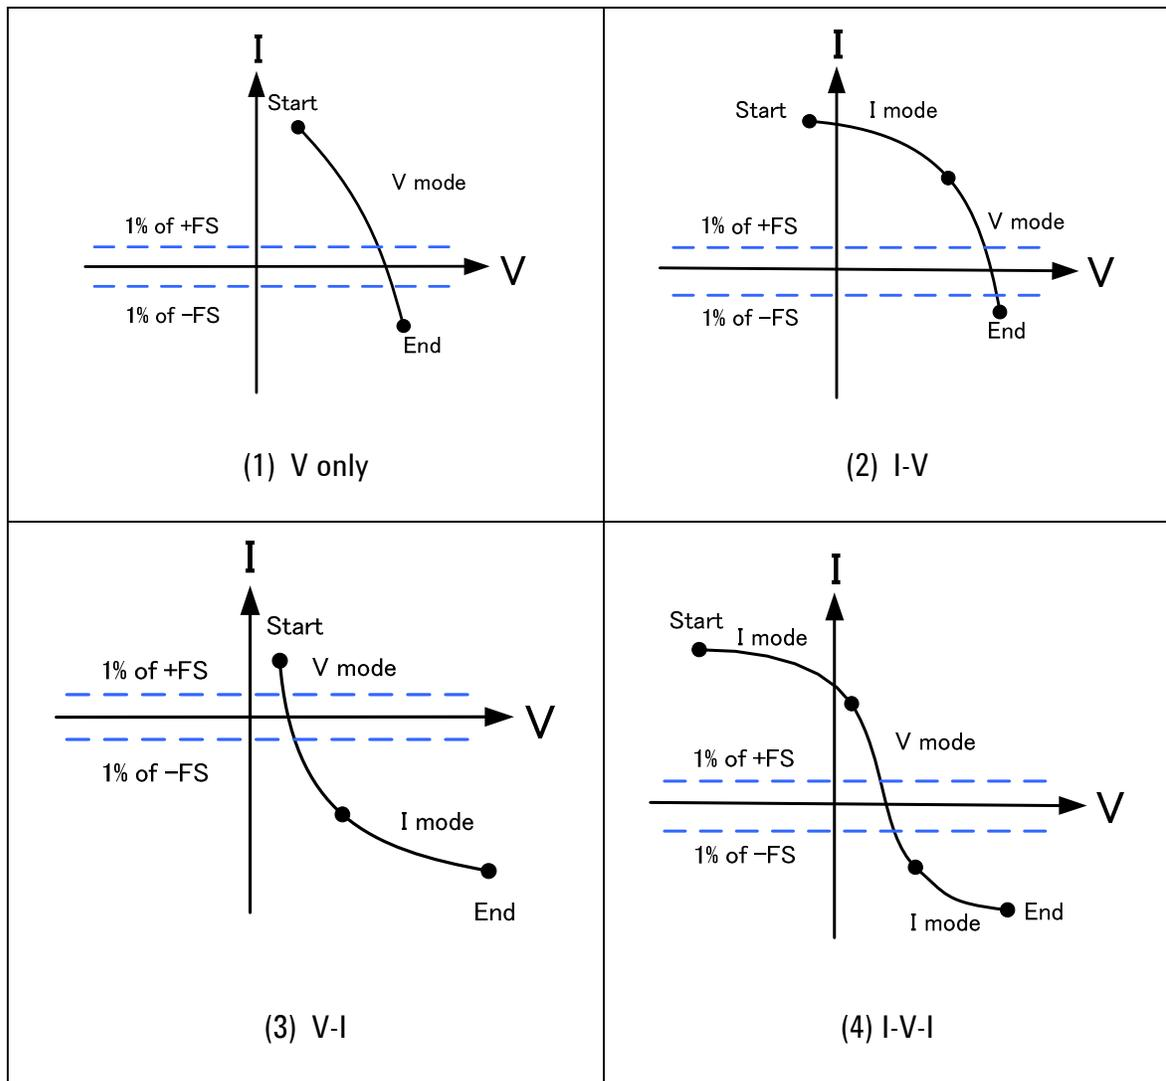
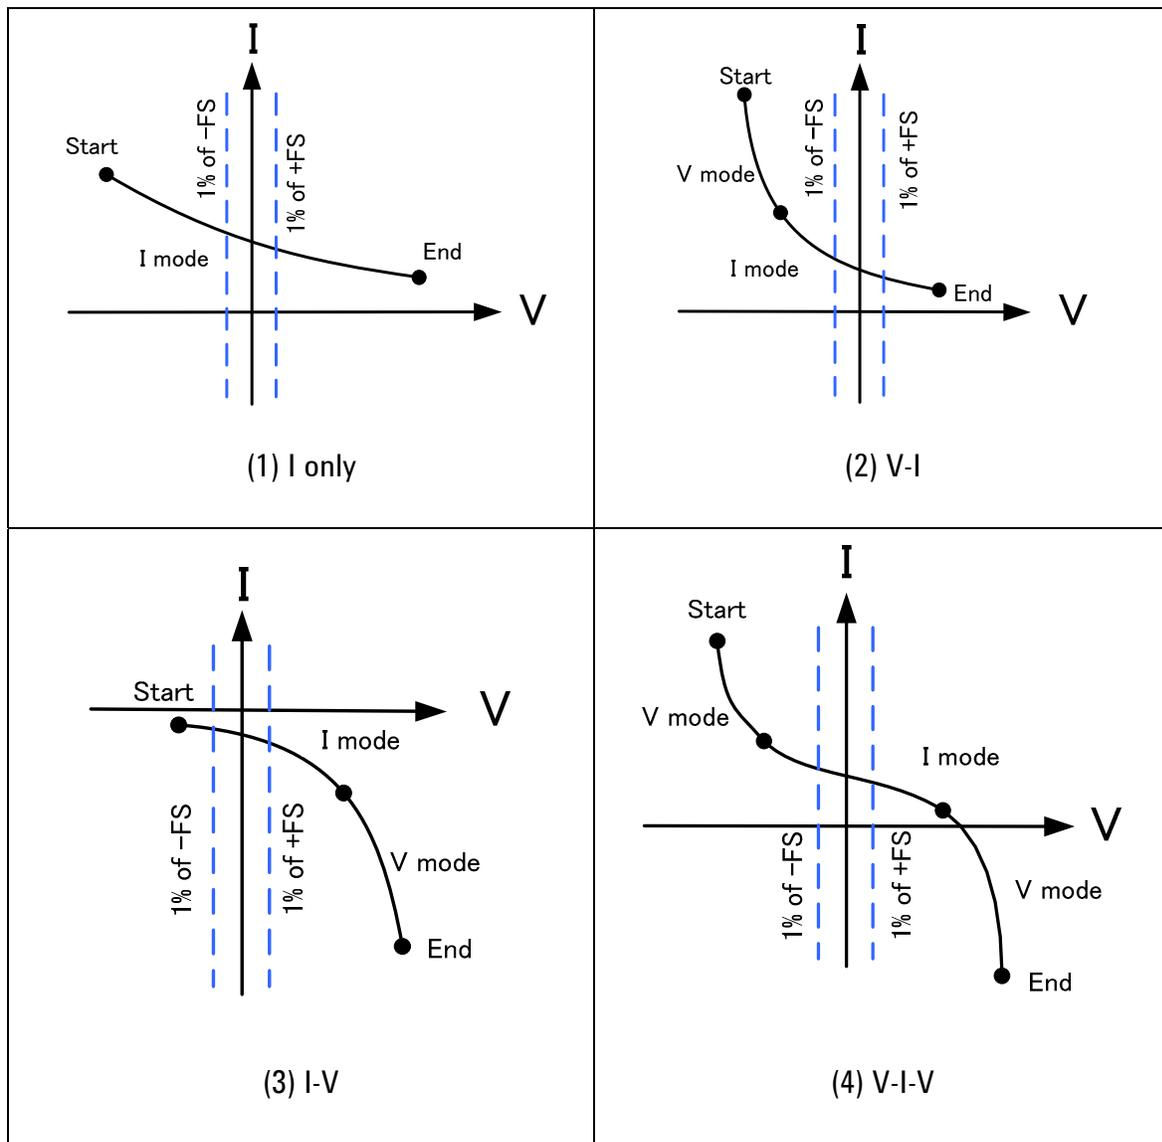

Figure 11 V/I mode when the primary source mode is voltage
Figure 12 V/I-mode when the primary source mode is current
Combination of the V/I mode must be one of the following conditions (Figure 11).
Combination of the V/I mode must be one of the following conditions (Figure 12).
(a) is a bad example for the combination shown in Figure 11 (3). The positive current is not allowed for the I mode, also the negative resistance (R_s or R_{sh}) is not allowed.
(b) is a bad example for the combination shown in Figure 12 (3). The V mode cannot be used within $\pm 1\%$ of full scale of the voltage range (or $\pm 10\%$ for the 200 mV range).
See the document *Using Constant Mode*, publication number B2960-90041. The available R_s/R_{sh} values for the constant mode are also effective for the VI emulation mode. However, the negative resistance/conductance is not allowed for the VI emulation mode. So, the I-V characteristics always shows the curve from upper left to lower right as shown in Figure 11 and Figure 12. Also, the shape of I-V characteristics is limited due to the internal configuration as described above.